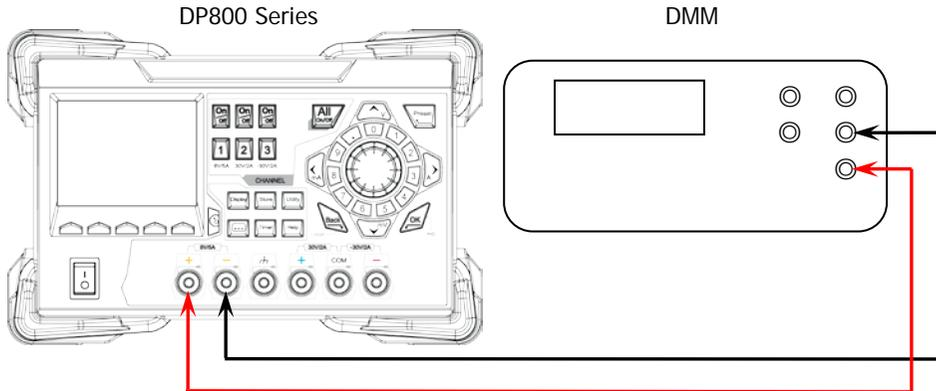

Figure 2-3 Connect DP800 and the Digital Multimeter (Current)
1. Make sure that DP800 has been warmed up for at least 30 minutes. Connect the channel output terminals (take CH1 as an example; the calibration method is also applicable to CH2 and CH3) of DP800 with the current input terminals of the digital multimeter using the test leads as shown in Figure 2-3.